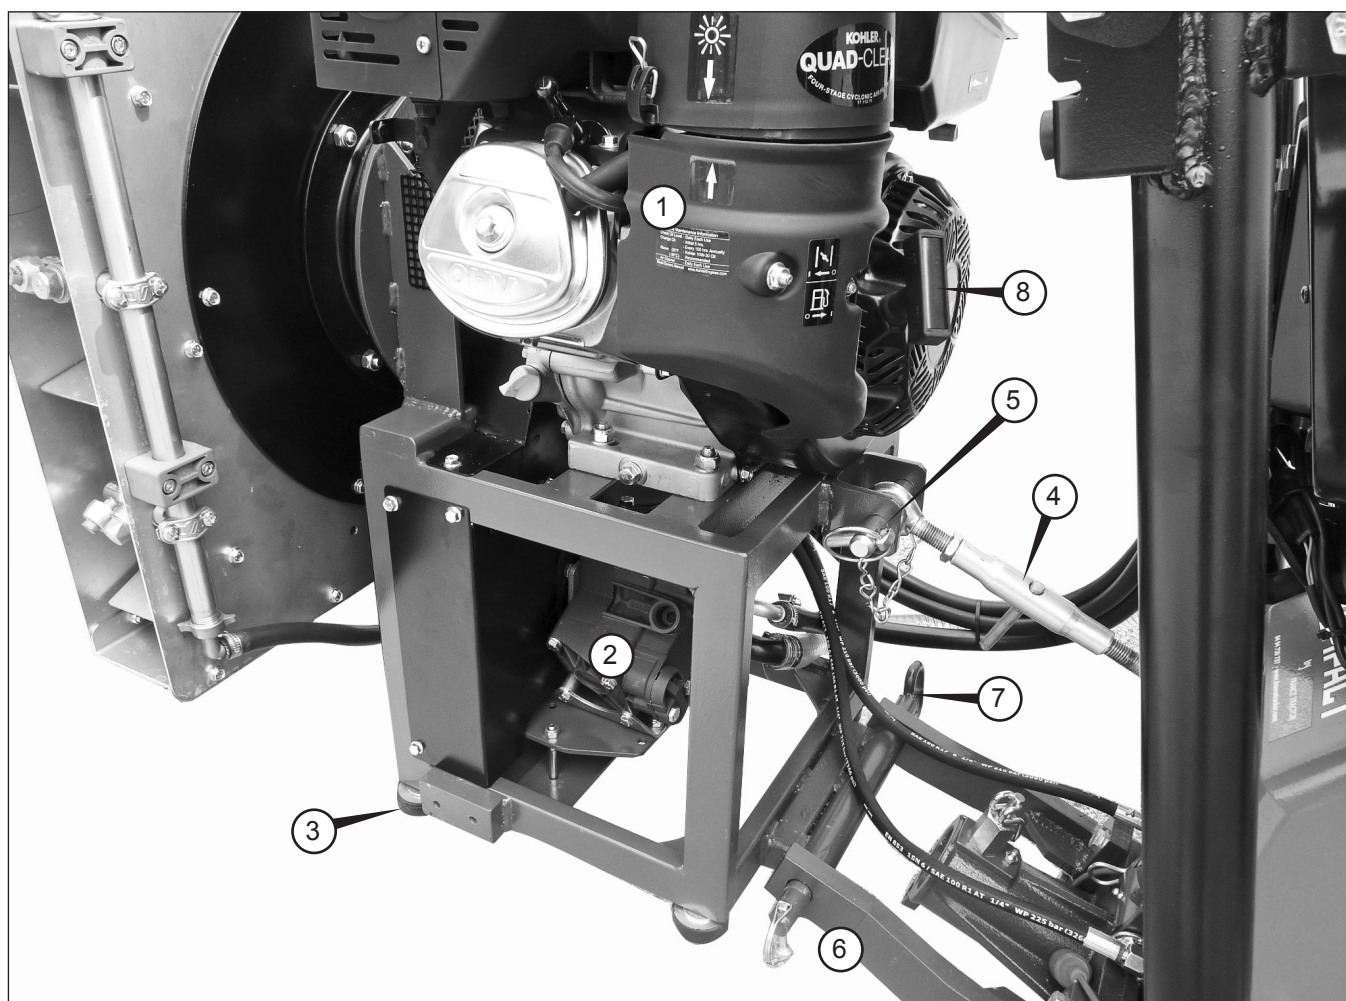

Fig. 23 - Vertical bar atomizer connection to the VISION multifunction machine
The ATOMIZER group, described in this «Section 7», is a motorized atomizer, which uses an autonomous motive force and which can be installed only on the VISION multifunction machine and on the MINITRANSPORTER manufactured by FORT and designed to receive and operate this interchangeable equipment (1 Fig. 21). The atomizer works by receiving motion directly from an auxiliary engine (2 Fig. 21), completely independent of the driving force of the machine, which makes both the diaphragm pump work (2 Fig. 23) that the fan if inserted.
- Position the atomizer group near the support arms of the two lower points (6 Fig. 23).
- Match the two lower arms (6 Fig. 23) with the lower support of the atomizer and, once centered in the hole, insert the pin (7 Fig. 23) blocking it with the relative snap cotter pin.
- Perform the same work with the third upper point by unscrewing or tightening the adjustment tie rod (4 Fig. 23) and, once centered in the hole, insert the pin (5 Fig 23) blocking it with the relative snap cotter pin.
**WARNING: Keep in mind that the fan must be perpendicular to the ground. Any adjustment (inclination of the fan) should be carried out by screwing or unscrewing the adjustment tie rod (4 Fig. 23).**
To start the engine, just pull the engine start handle firmly (8 Fig. 23) and immediately release it with the engine running.